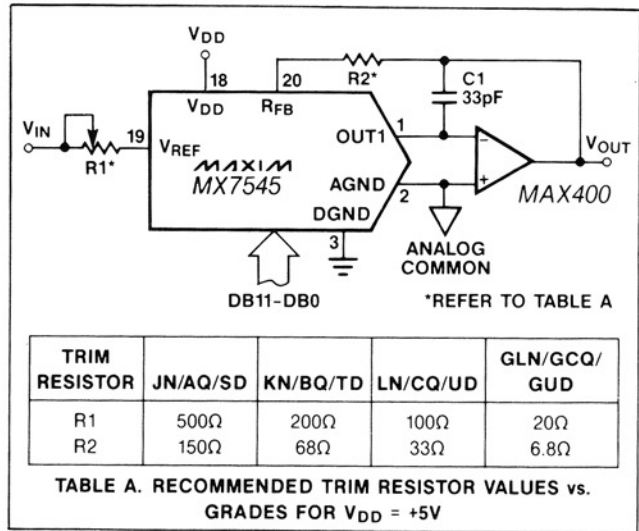
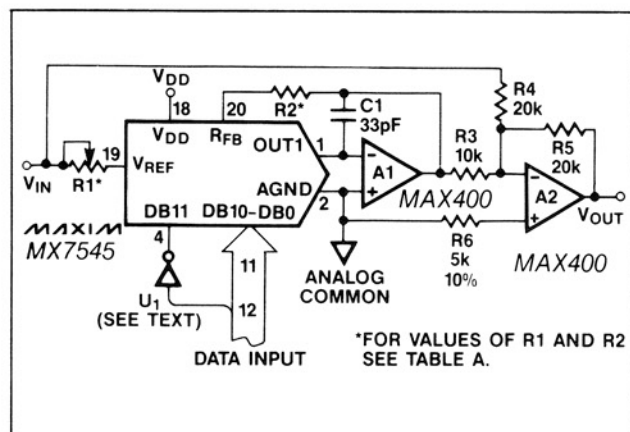

Figure 3. Unipolar Binary Operation
Figure 4. Bipolar Operation (2's Complement Code)
**Note 1:** Using internal feedback resistor, RFB. DAC register loaded with 1111 1111 1111. Gain error is adjustable using the circuits of Figures 3, 4 and 8.
Either current output can be converted into a voltage externally by adding an output amplifier (Figure 3). The  $V_{REF}$  input accepts a wide range of signals including fixed and time varying voltage or current inputs. If a current source is used for the reference input, then a low temperature coefficient external resistor should be used for  $R_{FB}$  to minimize gain variation with temperature.
The most common configuration for the MX7545 is shown in Figure 3. This circuit is used for unipolar binary operation or two-quadrant multiplication. The
Table 1. Unipolar Binary Code Table for Circuit of Figure 3
In many applications the gain adjustment will not be necessary, especially when using the "G" suffix parts with guaranteed maximum  $\pm 1$  LSB gain errors. In those cases and also when the gain is trimmed at the reference source, resistors R1 and R2 in Figure 3 can be omitted. However, if the trims are desired and the DAC is operated over a wide temperature range, then low tempco ( $<300\text{ppm}/^\circ\text{C}$ ) resistors should be used for R1 and R2.
With the circuit configuration shown in Figure 4, the MX7545 operates in the bipolar, or 4-quadrant multiplying mode. A second amplifier and three matched resistors, R3, R4 and R5 are required. These resistors must be of the same material (preferably metal film or wire-wound) for good temperature characteristics, and they should match to 0.01% for 12-bit performance.
Table 2. 2's Complement Code Table for Circuit of Figure 4
To adjust the circuit with offset binary code, load the DAC with a code of 1000 0000 0000 and trim R1 for a 0V output. With R1 and R2 omitted, an alternative zero trim is to adjust the ratio of R3 and R4 for 0V out. Full scale can be trimmed by loading the DAC with all "zeros" or all "ones" and adjusting the amplitude of  $V_{REF}$  or varying R5 until the desired positive or negative output is obtained. In many applications the gain adjustment will not be necessary, especially when using the "G" suffix parts with guaranteed maximum  $\pm 1$  LSB gain errors. In those cases and also when the gain is trimmed at the reference source, resistors R1 and R2 in Figure 4 can be omitted. However, if the trims are desired and the DAC is operated over a wide temperature range, then low tempco ( $<300\text{ppm}/^\circ\text{C}$ ) resistors should be used for R1 and R2.
Figure 6. Differential Nonlinearity vs.  $V_{DD}$  for Figure 4 Circuit. Reference Voltage = 2.5 Volts. Shaded Area Shows Range of Values of Differential Nonlinearity that Typically Occur for L, C and U Grades.
The unipolar and bipolar circuits in Figures 3 and 4 can all be converted to voltage output mode. For example, Figure 8 shows the 2's complement bipolar circuit of Figure 4 modified to work with an output range of +2V to +8V around an offset ground potential of +5V from a single supply,  $V_{DD}$ , of +10V to 15V. The REF02 reference is used to bias the AGND at +5V. The R1 and R2 resistors form a voltage divider together
Figure 7. Differential Nonlinearity vs. Reference Voltage for Figure 4 Circuit.  $V_{DD}$  = 15 Volts. Shaded Area Shows Range of Values of Differential Nonlinearity that Typically Occur for L, C, and U Grades.